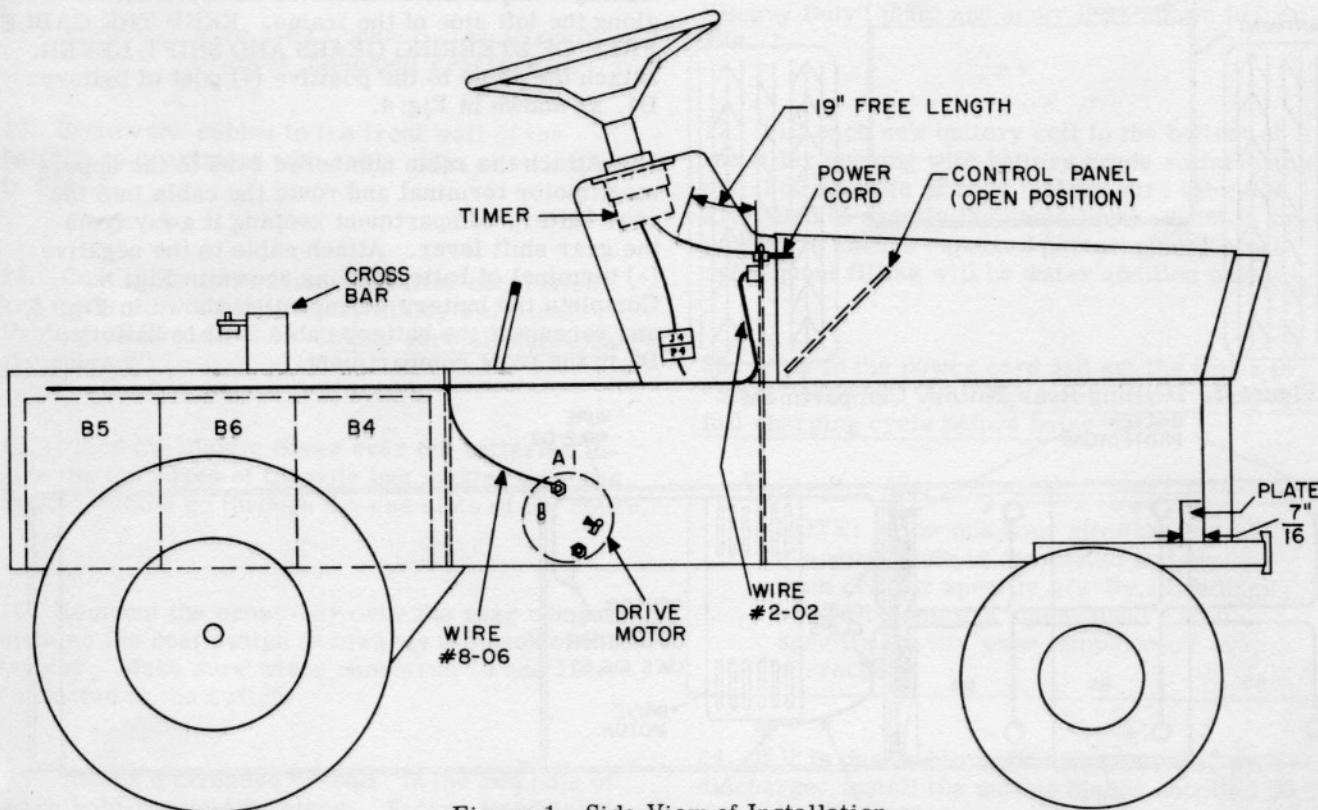
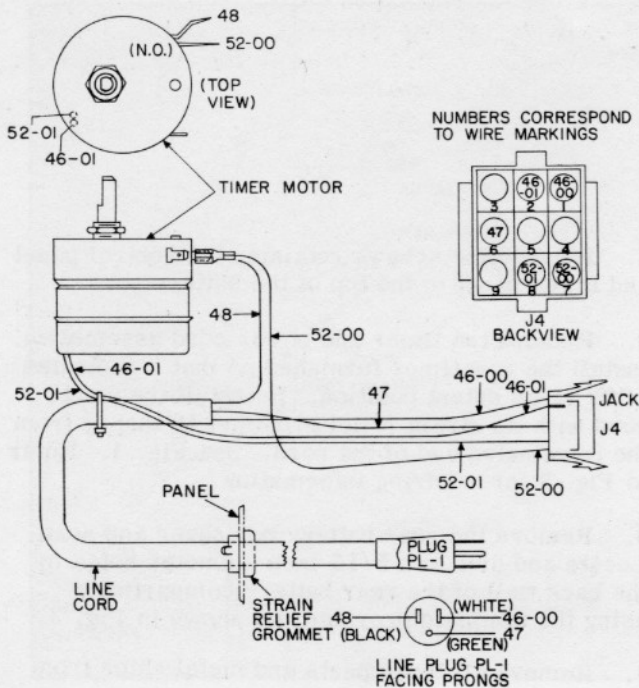

Figure 1. Side View of Installation
Figure 2
2. Remove the timer and power cord assemblies. Install the new timer furnished so that it indicates "Off" in its detent position. Reinstall the power cord with its strain relief grommet 19 inches from the terminated end of the cord. See Fig. 1. Refer to Fig. 2 for rewiring information.
21. Clean each side of the front battery compartment in the area just below the EGT80 identification insignia. Remove the paper backing from the "Heavy Duty" plate and apply it as shown in Fig. 1.